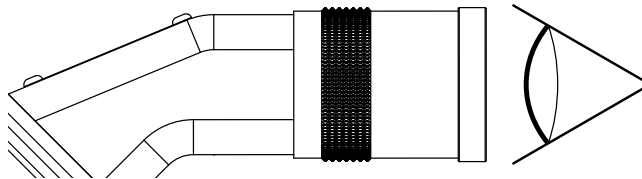

Figure 37. The Viewfinder
10. On the optical barrel, use the Reticle Focus Adjuster to focus markings (see Figure 37).